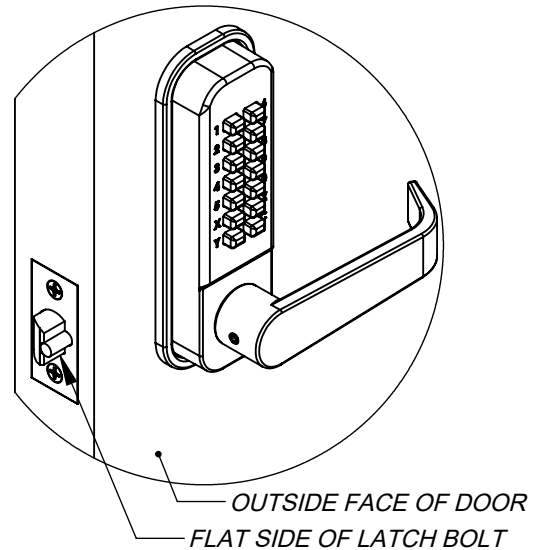

Figure 1
1) To operate the lock from the outside of the door, press C to clear, and then press your code to unlock (Figure 1). Turn the handle to open the door. The lock will relock once releasing the handle.